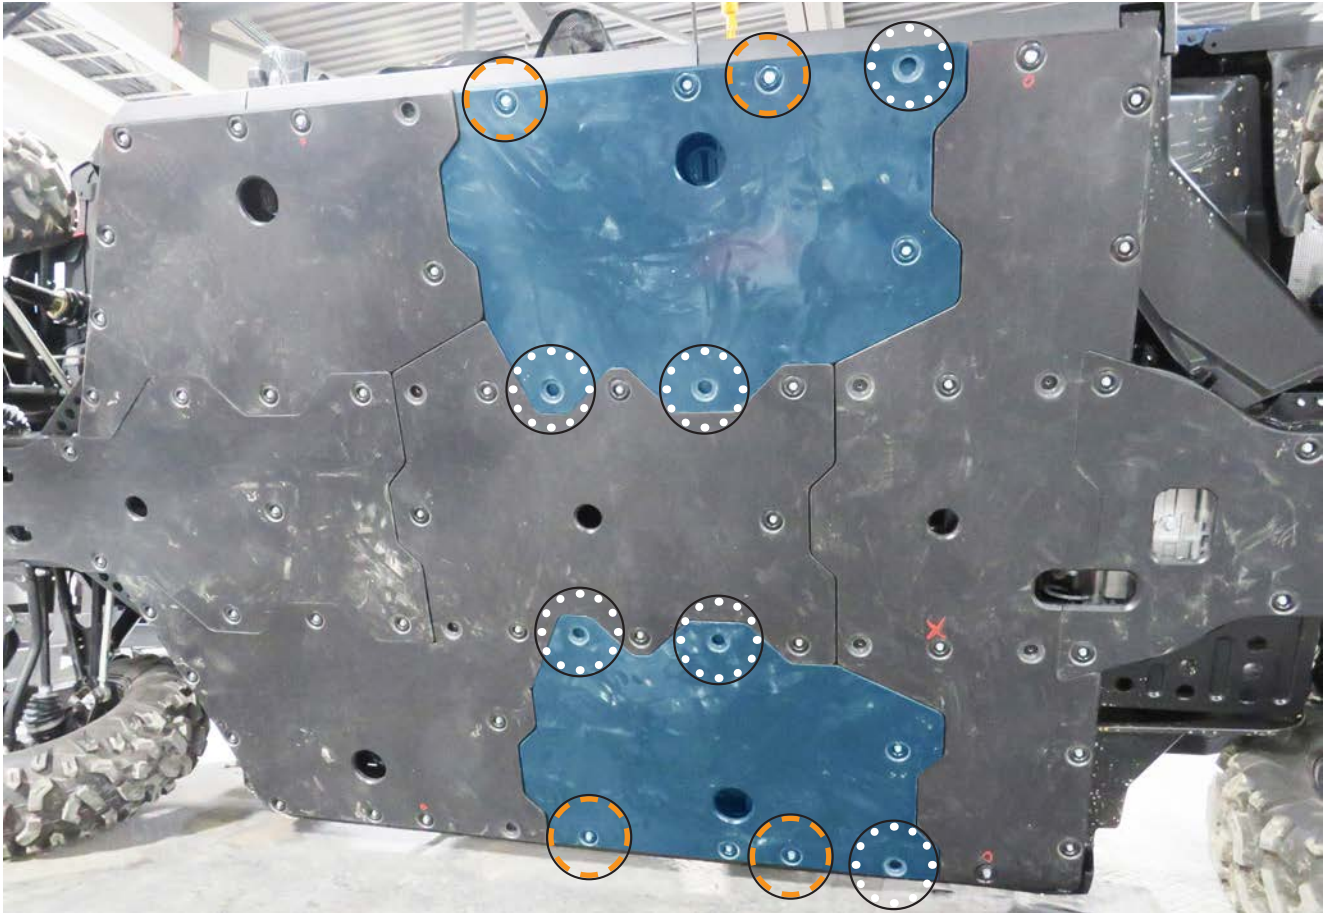

Fig.7d
7. Next will be the last two Rear Side Plates as shown in **Fig.7d** below. These plates take the standard **M6x20 Bolts** and **Bowl Washers**, a few of the **M8x20 Self-Tap** and also have a few **Drilled Locations** using the **1/4-20x1" Self-Tap Bolts**. We will show these in **Fig.7d** below.